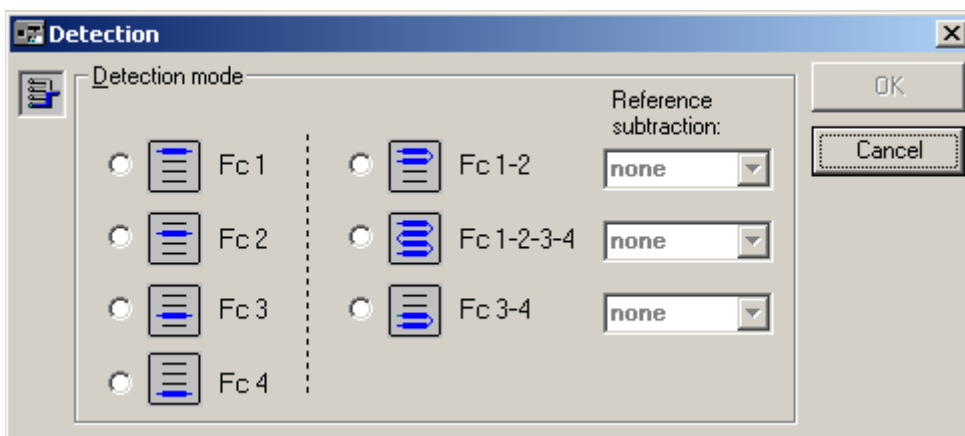

Fig 3.1
- 3.4 'Detection Mode' window (figure 3.1) will open.